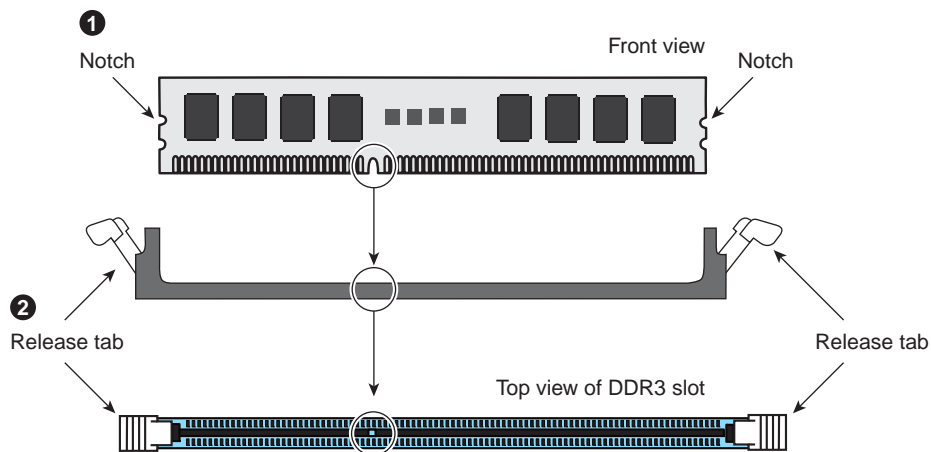

Figure 5-4 DIMM Installation Example
1. Insert the DIMM module vertically and press down into its slot until it snaps into place. Pay attention to the alignment notch at the bottom of the module to avoid installing incorrectly (see Figure 5-4 on page 34). Insert the desired number of DIMMs into the memory slots, beginning with DIMM #1A and DIMM #2A, then DIMM #3A and DIMM #4A, etc. (see Table 5-1 on page 35 for DIMM placement with single-CPU serverboards). Always spread DIMMs across all applicable banks for each CPU. Gently press down on the DIMM module until it snaps into place in the slot. Repeat for all modules.
To remove a DIMM module, use your thumbs to gently push the release tabs near both ends of the module (see Figure 5-4). This should release it from the slot.